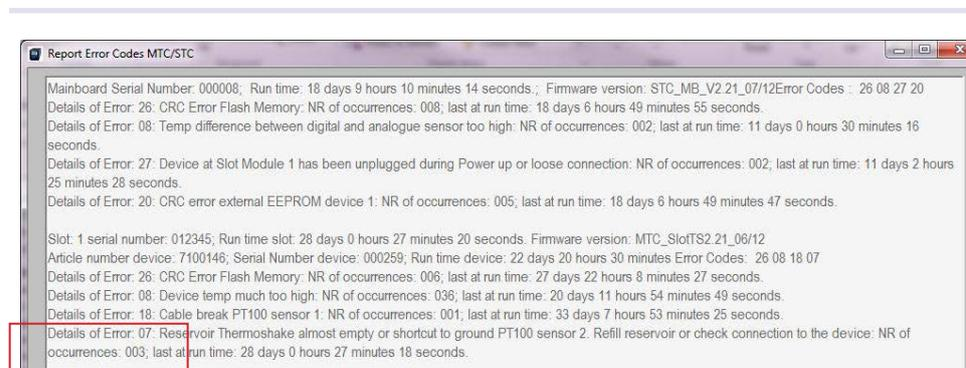

Fig.17: Example: Details of Error 07: no. of occurrences: 003, in case of an increase in 2nd report to 004 → refill is required
- Search in the displayed report for Details of Error: 07: **occurrences: 00X** → Fig. 17